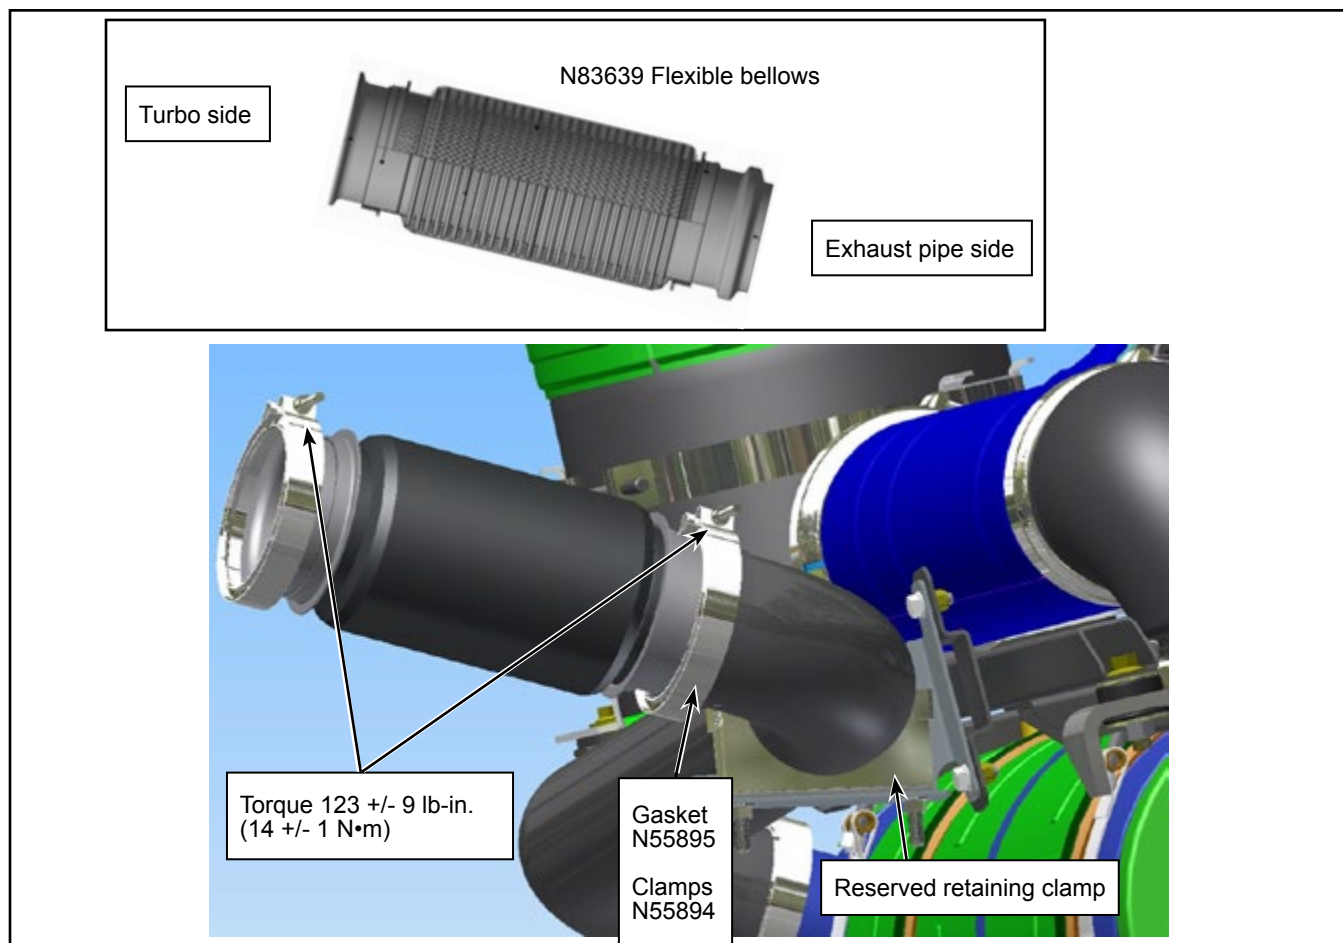

Figure 4 - Installation of the Flexible Bellows
- 1.10. Affix flexible bellows N83639 to the exhaust pipe and engine turbo with N55894 clamps and N55895 exhaust gasket. See Figure 4 for torque value and position of the gasket.
- 1.11. Affix the exhaust pipe N83635 to N83919 bracket with the retained retaining clamp and hardware. See Figure 4.